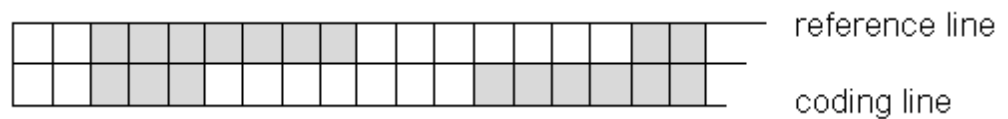

Figure 12: Horizontal mode encoding.
- Horizontal mode (shown in Figure 12) - used when other modes are less efficient or when color transitions are displaced by 4 or more pixels - 001 code word followed by 1 D coding words for the next 2 run lengths